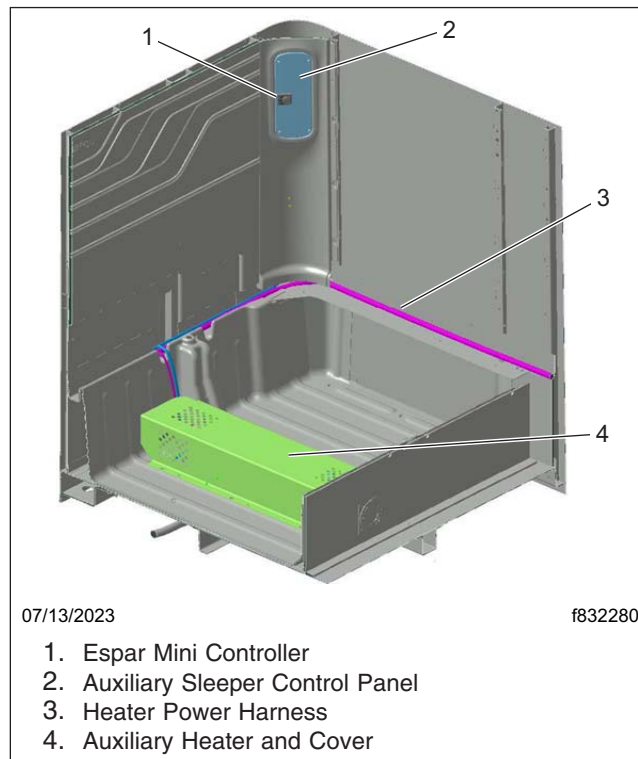
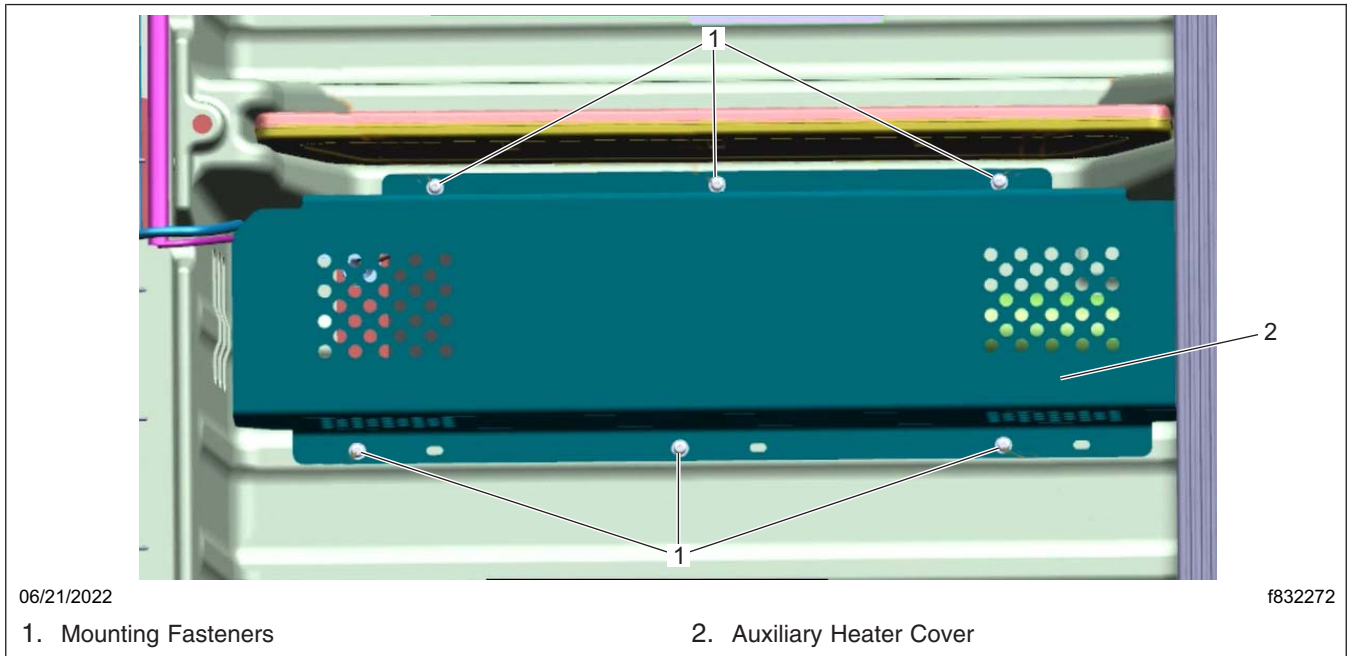

Fig. 19, Location of the Auxiliary Heater and Sleeper Control Panel
Fig. 20, Location of the Auxiliary Heater Cover Fasteners
3. From inside of the sleeper cab and underneath the bunk, remove the six fasteners that attach the auxiliary heater cover to the sleeper floor. Remove the auxiliary heater cover. See **Fig. 19** and **Fig. 20**.